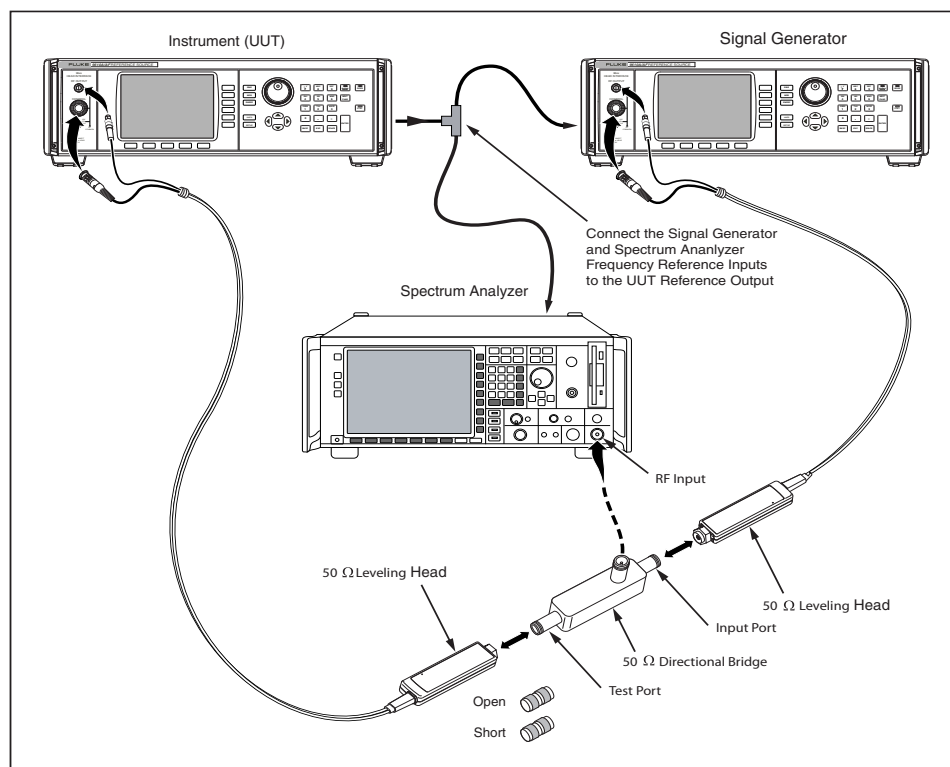

Figure 5-8. Equipment Connections - VSWR Test (50 Ω)
1. Connect the REF FREQUENCY OUTPUT (rear panel) from the UUT to the spectrum analyzer and signal generator external reference inputs using a BNC tee and BNC male – male cable assemblies. Set the spectrum analyzer and signal generator for external frequency reference. See Figure 5-8.